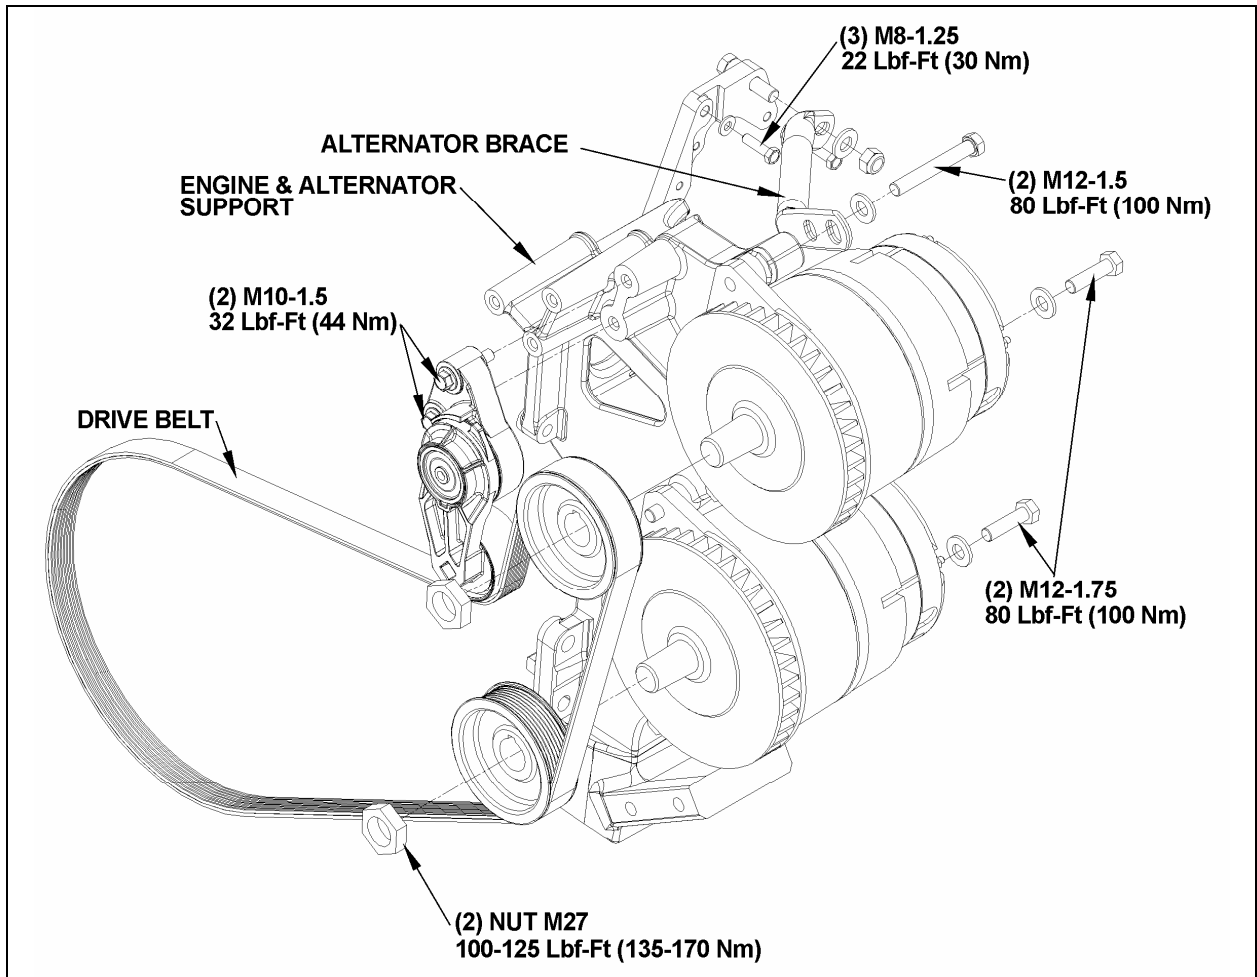

FIGURE 22: BOSCH ALTERNATORS MOUNTING TORQUES (VOLVO D13)
If the alternators needed to be removed, reinstall as follows. Refer to figures 22 and 23 for installation and tightening specifications:
1. If not already done, mount the alternator brace to the engine and alternator support (figure 22);
2. Bolt the alternators to the bracket using one 3.5 inch bolt at the top and two  $1\frac{3}{4}$  inch bolts at the lower mounting bosses (fig. 22);